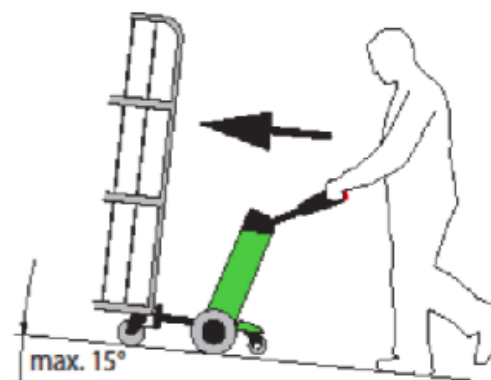

Fig. 8
- If you need to transport uphill and the Movexx needs to carry out a slowing down function, you need to turn the combination and carry on in a push position (if there is a brake on the machine) (Fig 8) with the object to move in front of you.